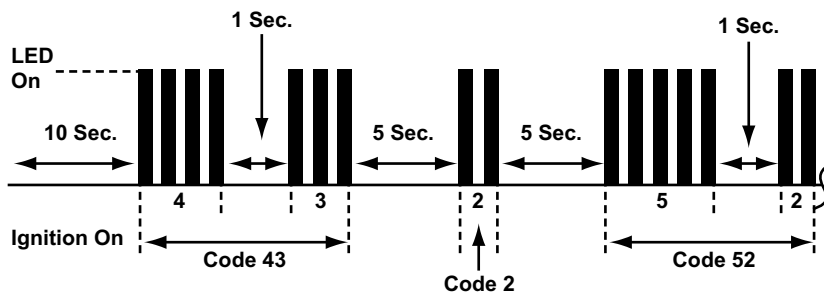

Figure 4-26 Acura ABS Code Type 12
- Type 12, see Figure 4-26 and Table 4-12 on page 28